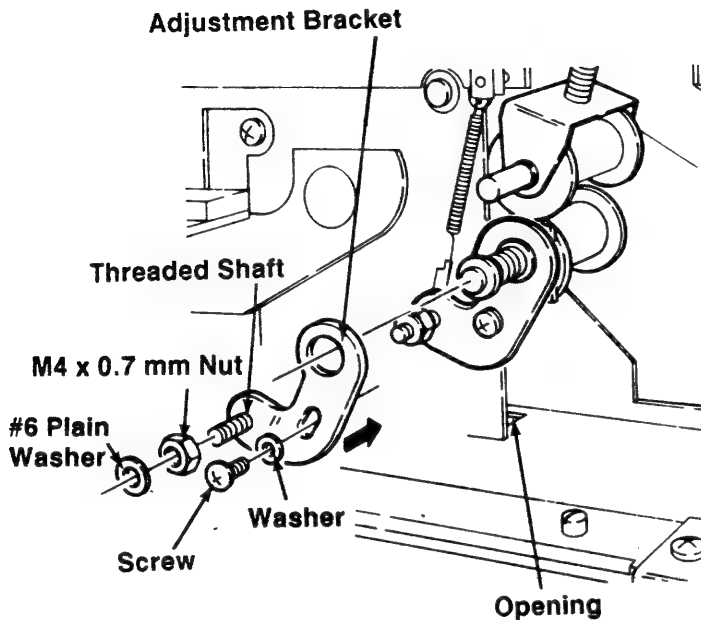

Figure 2-3.2C
9. Install the Adjustment Bracket (Item 19) for the Blip Sensor Housing Assembly using the Screw and Washer removed in Step 8 (Figure 2-3.2C).
11. Route the Blip Lamp Harness and the A Row and B Row Blip Sensor Wiring Harnesses from the Blip Sensor Housing Assembly (Item 7) to the left through the opening in the Base out of the way of the film path (Figure 2-3.2C).
20. Place the M-654 on its rear and pull the A Row and B Row Harnesses and Lamp Harness of the Blip Sensor and Housing Assembly through the opening in the Base (Figure 2-3.2C).